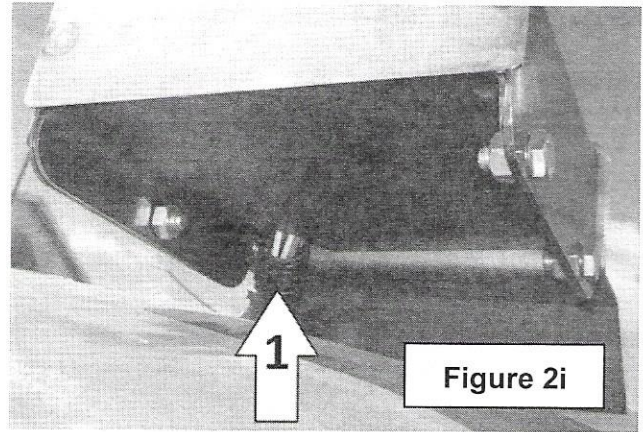

Figure 2i
12. **Figure 2i:** Install the electric control support cover using three 1/4"NC x 1/2" lg bolts and nylon insert locknuts, while passing the harness (item 1) through the opening.